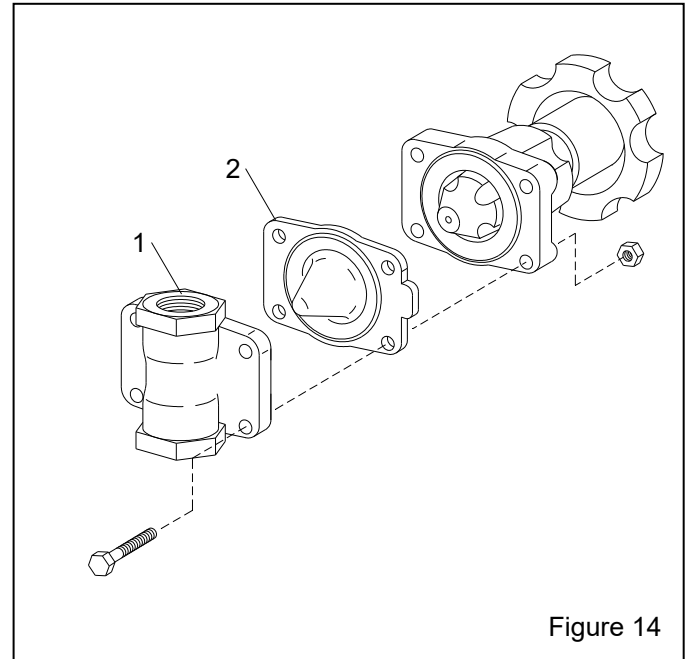

Figure 14
7.7 Abrasive Metering Valve, Figure 14